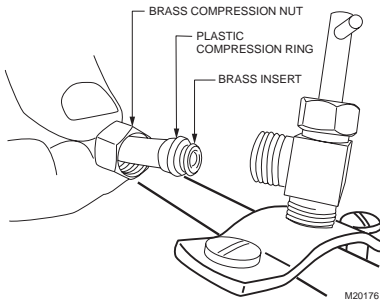

Fig. 9. Installing feed tubing.
3. Use 1/4 in. (6 mm) OD tubing and connect the saddle valve to the inlet side of the solenoid valve on the humidifier (see Fig. 9).